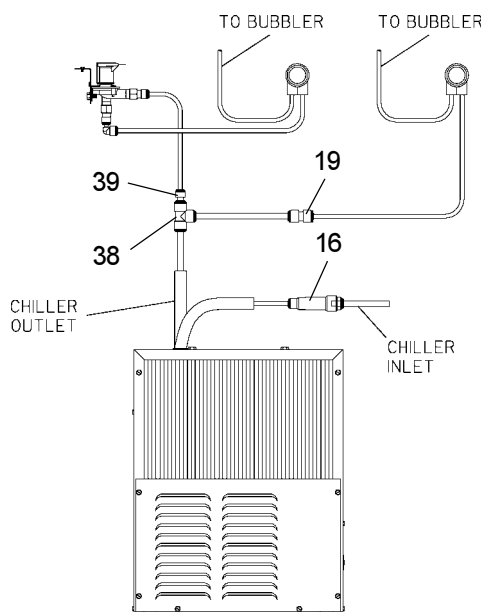
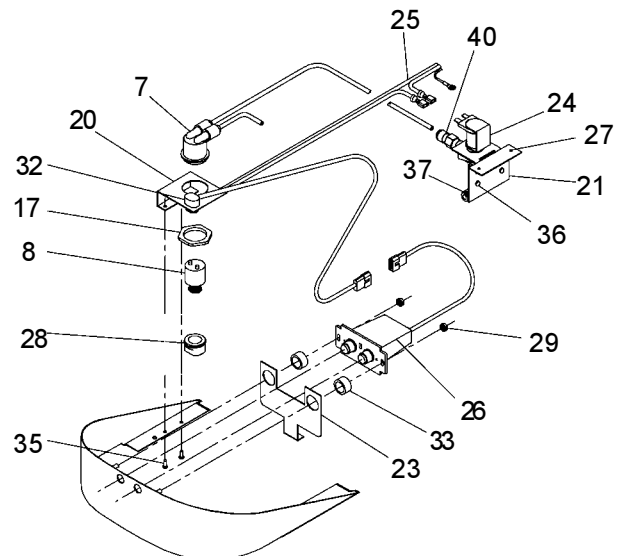

FIG. 4
FIG. 5
6. Make connection between remote chiller and solenoid valve assy. Install the 3/8" tee (provided) on the chiller outlet tube. Install the 3/8" stem x 1/4" O.D. tube union (provided) into 3/8" tee (See Fig. 4). Install 1/4" O.D. formed tube (provided) between 3/8" stem x 1/4" O.D. tube union and the straight fitting on solenoid valve assy.
8. Install fountains. Remove bottom cover plates on underside of fountains and save the screws. Mount the fountains to the upper panel and the wall frame with (4) 5/16" x 3/4" (19mm) long bolts and nuts (provided). Tighten securely.
11. Connect power cord of sensor to solenoid valve by running it through the back panel and connecting it as shown in Fig. 5. Connectors may be connected to either terminal on solenoid valve. Attach ground wire to solenoid valve bracket with green ground screw.
15. Check stream height from bubbler. Stream height is factory set at 35 PSI . If supply pressure varies greatly from this, remove items 28 and 36 and adjust the screw on the regulator (item 8). Clockwise adjustment will raise stream height and counter-clockwise will lower stream height. For best adjustment stream height should hit basin approximately 6-1/2" (165mm) from the bubbler.
16. Mount lower panel. Loosen the (2) #10-24 x 5/8" (16mm) screws at frame bottom lip. Slide upper tongue of lower panel under lower edge of already installed upper panel. Tighten previously loosened screws securely.